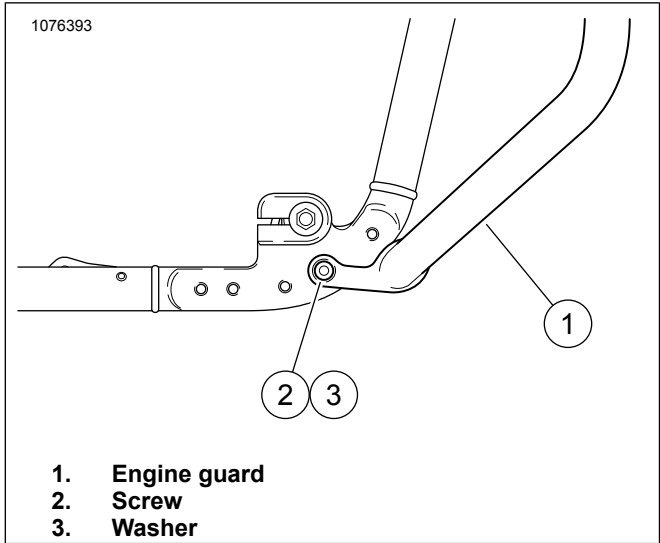

Figure 3. Engine Guard Lower Mounting (Right Side View)
3. See Figure 3. On right side of motorcycle, attach engine guard (1) to lower frame with screw (2) and washer (3) from kit. Tighten finger-tight.